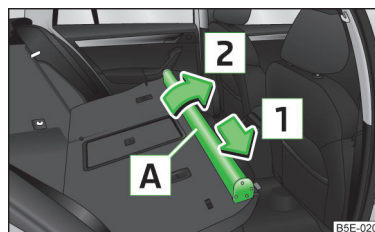

Fig. 104
- Push the net partition housing **A** in the direction of the arrow 1 and remove it from the mounts on the right seat backrests in the direction of the arrow 2 » Fig. 104.
- Push the net partition housing in the opposite direction of the arrow 1 » Fig. 104 as far as the stop.